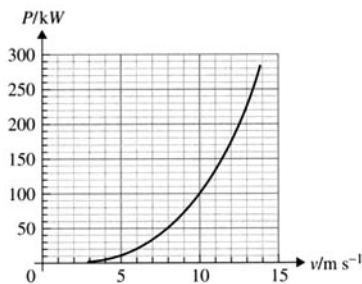

Figure 1.21 For question 21.
- 21 The graph in Figure 1.21 shows the power curve of a wind turbine as a function of the wind speed. If the wind speed is 10 m s^{-1} , calculate the energy produced in the course of one year, assuming that the wind blows at this speed for 1000 hours in the year.